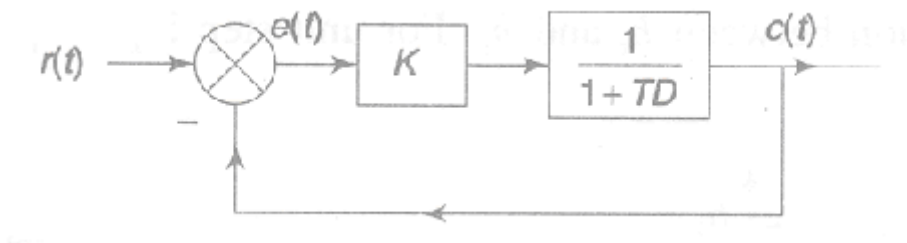

Figure 2:
8. For the system with block diagram as shown in figure 2, derive an expression for the closed loop transfer function. [16]